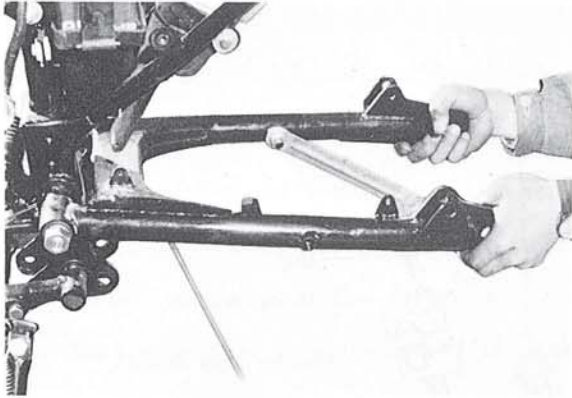

Fig. V-8-3
- 1) Check the play of the rear swing arm by shaking it as shown in Fig. V-8-3, with the rear swing arm installed. If the play is excessive, replace the rear swing arm bushing or the rear swing arm shaft.